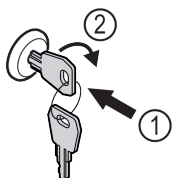

Fig. 196 Example illustration
- Insert key Fig. 196 (1).
- Turn key clockwise by 90° Fig. 196 (2).